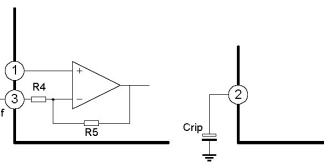

Figure 2
2. Adjustment of the voltage gain (figure 2)
The voltage gain is fixed at $G_v=40dB$ by the resistors (R4 and R5) in IC. Its reduction is possible through adding R_f as shown in Figure 2. In this case, the voltage gain is obtained by the following equation: $G_v=20\log(R5+R4+R_f)/(R4+R_f)$. It is recommended to use this IC with the voltage gain of $G_v=28dB$ or over.